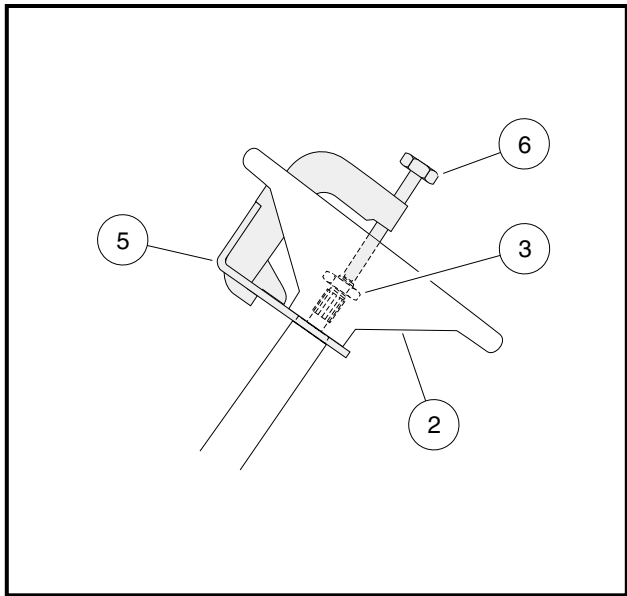

Figure 7-3 Steering Wheel Puller
- 8.3. Rotate the anvil screw (6) clockwise until the base plate contacts the bottom of the steering wheel where it attaches to the steering column (**Figure 7-3, Page 7-4**).